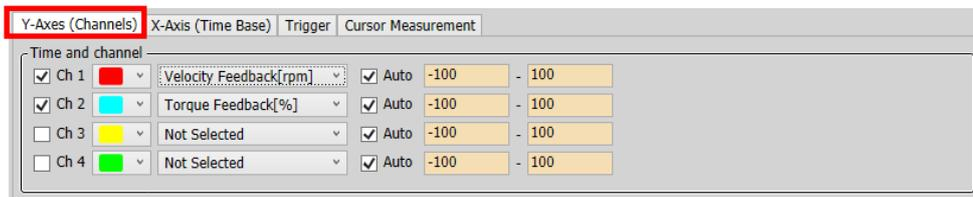

Figure 3-5.2
(1) Ch1, Ch2, Ch3 and Ch4
- The channel check box only specifies whether to display the graph on the screen; for a channel that you don't trace or trigger, select "Not Selected" in (3).
- (3) Select the monitoring variable for each channel (Velocity Feedback[rpm])
- (4) Auto
- This selects the range of Y axis of the channel graph automatically. (If unchecked, Y axis is determined by manual setting in (5).)
- (5) Ymin and Ymax
- This is the range of Y axis of the channel graph that the user has to set manually. Use the unit according to the monitoring variable set up in (3). If Velocity Feedback[rpm] is selected, Ymin and Ymax will have the range of -100[rpm] to 100[rpm] in Figure 3-5.2.